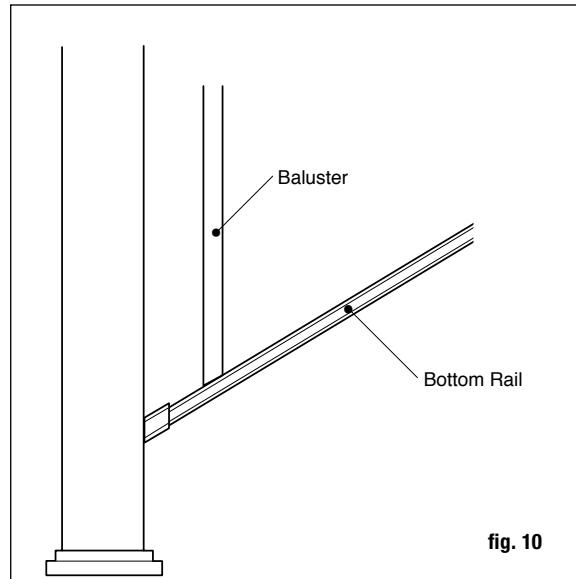

fig. 10
Step 8 Place a baluster into each routed hole in the bottom rail. Make sure baluster is fully seated in rail (fig 10).